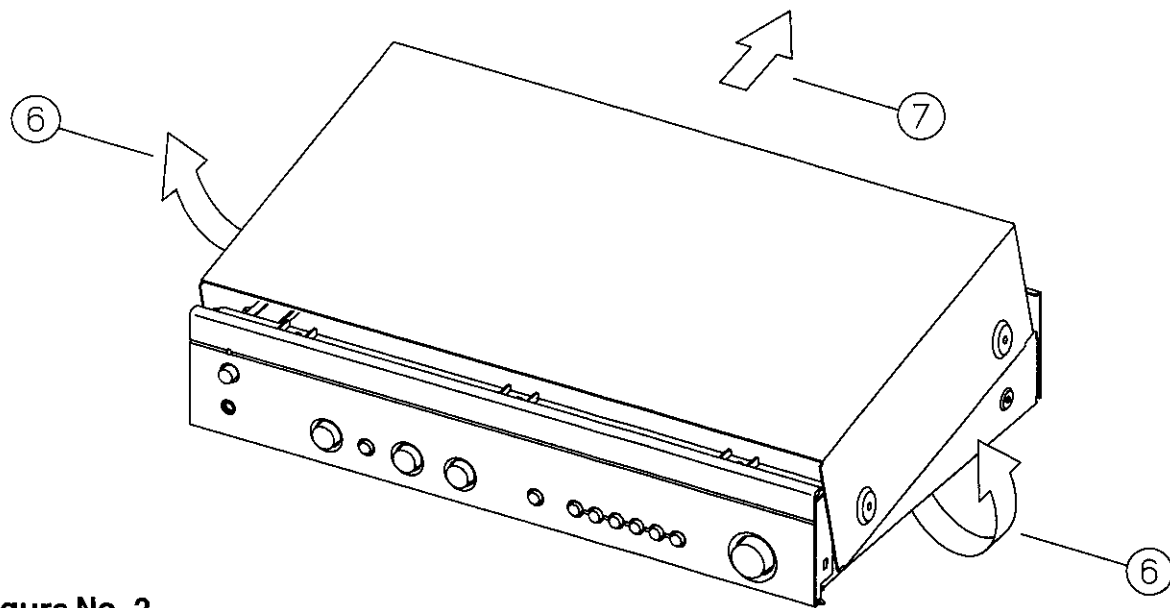

Figure No. 2.
2. Pull both sides of the TOP COVER slightly outwards, tilt approximately 35° and then move in the direction shown in **Figure No. 2**.